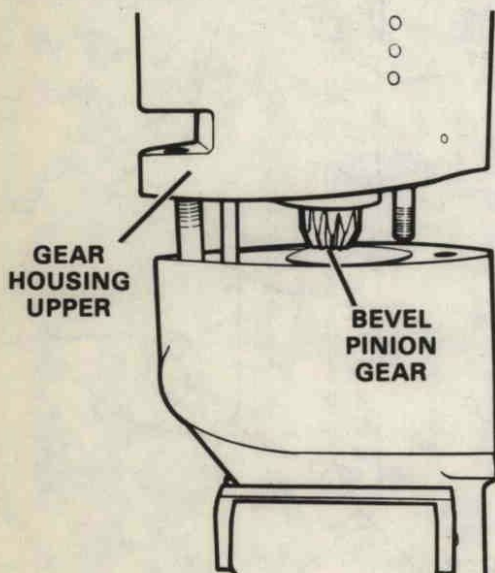

Figure 70. Positioning Upper Housing to Side.
F. Lift upper housing up from lower housing as far as it will go. Reach inside lower housing and push pinion shaft up out of bore. Figure 70. Set upper housing over to one side of lower gear housing. Bottom of pinion gear should be resting on parting line surface of lower gear housing.